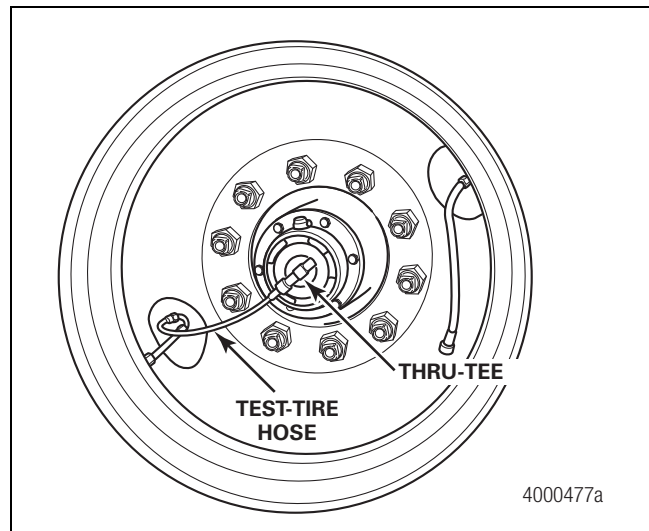

Figure 3.7
9. Choose a tire to test. Hand-tighten the hose to the thru-tee. Figure 3.7.